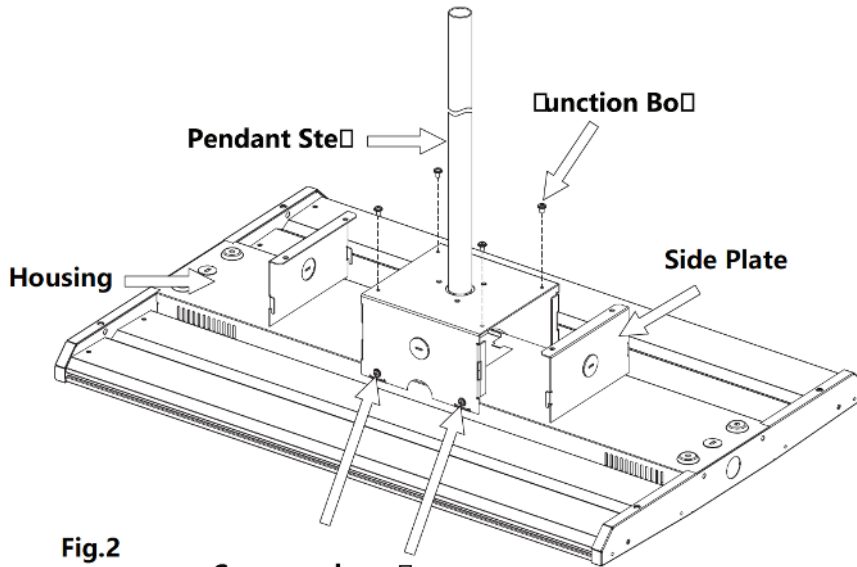

Fig.2
2. Install Pendant Junction Box by mounting Pendant Junction Box with supplied Screws (4) and Washers (4) as shown (Fig. 2).
3. Feed wires through Pendant Stem and into Pendant Junction Box. Wire the housing leads to supply wires using UL listed wire connectors according to National Electrical Code and local codes in the Pendant Junction Box. Push all wires back into Pendant Junction Box, install Side Panels (2) with supplied Screws (2).